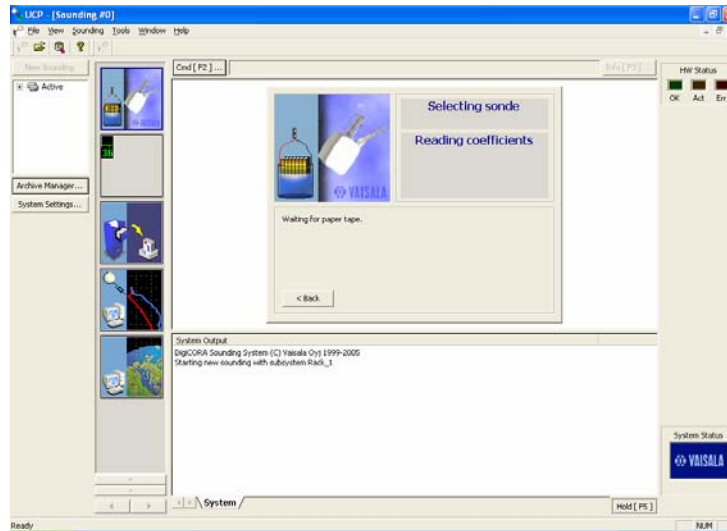

Figure 4
- 3) Click on “New Sounding.” The screen should look like the following (Figure 4):